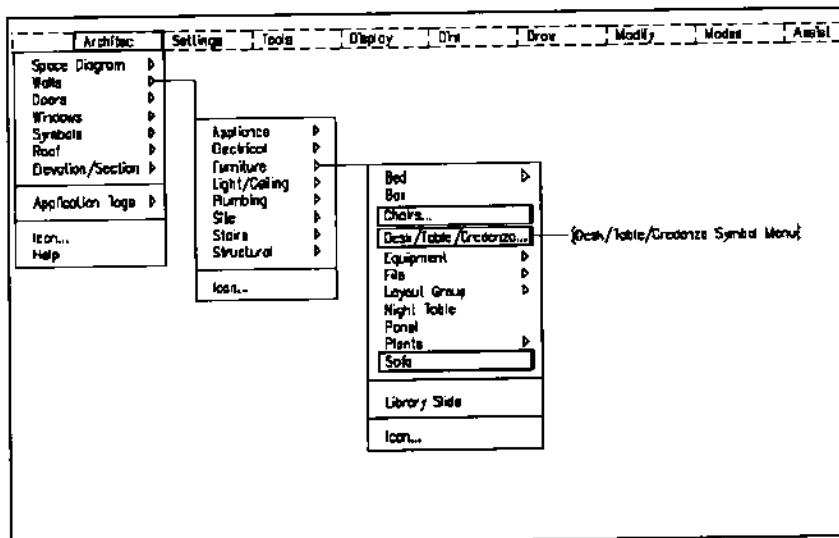
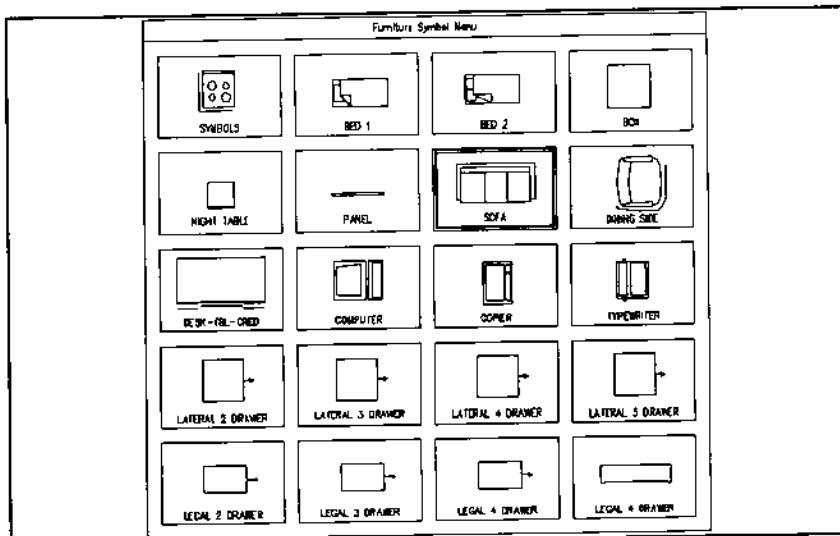

Figure 78.
Figure 79.
1. Choose all the furniture by selecting Symbols, then Furniture, under the Architec pull-down menu, as shown in Figure 78.
1. Select Furniture from the Architec pull-down menu to display the cascading submenu, as shown in Figure 78, or the Furniture Symbol Menu icon in Figure 79.